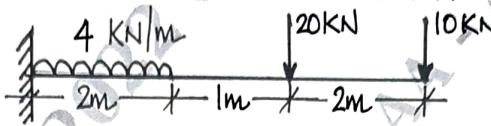

Fig Q4(a)
- 4 a. Draw SFD and BMD for the cantilever beam shown in Fig Q4(a)